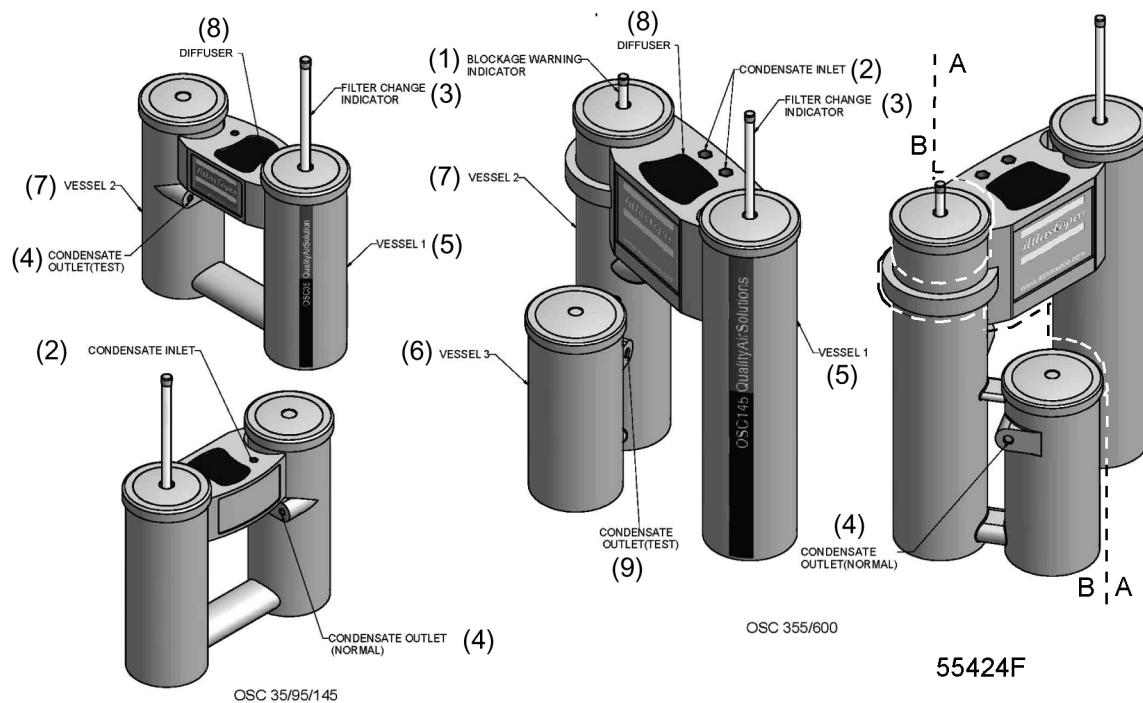

Fig. 1.5 OSC35-600
- 1 **On OSC355 up to -600** if the three towers stand in one line (Fig. 1.3), rotate the third tower forward (Fig. 1.5).
- 4 Connect the automatic drain of the compressor condensate trap to the condensate inlet (2-Fig. 1.5/1.6) of the OSC (see table, section 3.2). The connection can be made using one or both condensate inlets. The piping diameter must be at least 6 mm. The flexible must be laid out in such a way that no pockets are formed where condensate can collect. The feed line must never be laid out at floor level.